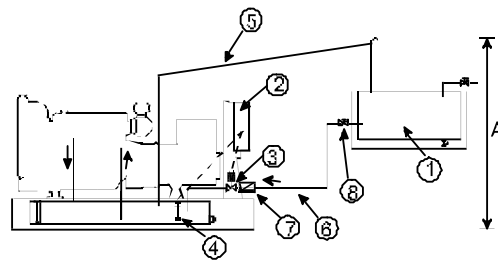

Figure 10.2: Typical Layout with Fuel System 2
**Fuel System 2:** The bulk tank is located higher than the basetank. With this system the fuel is gravity fed from the bulk tank to the basetank. See figure 10.2.
Distance 'A' in Figure 10.2 is limited to 1400mm for all generator sets with metal basetanks.